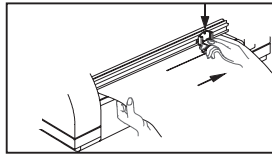

Figure 2
2. Grasp film with one hand, press the cutter downward into the application and slide it first to one end of the application, then to the other end to complete the cut. (Figure 2 & 3)